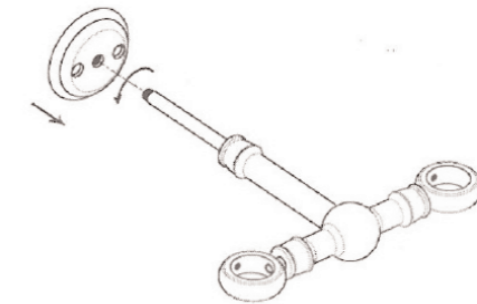

Figure 3b
2. Thread Wall Mount Plate (See Figure 3b)